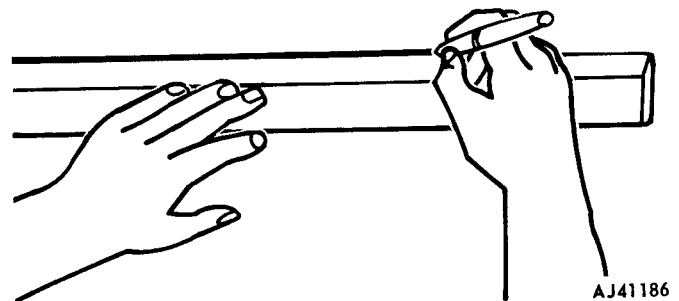

Fig. 20-3 Marking Decal Position
(7) Position decal on panel surface and mark position with grease pencil (fig. 20-3). Allow 1/2-inch overlap around door and fender areas. Cut decal to approximate length using scissors.